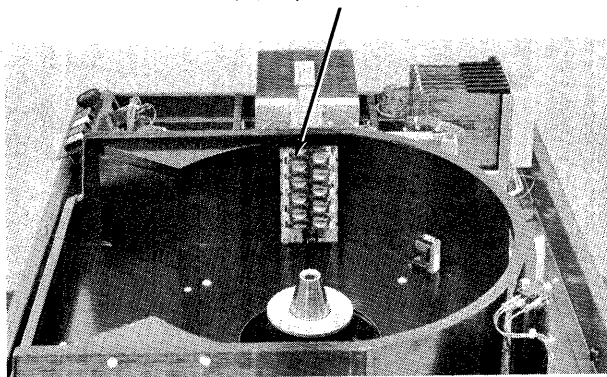

Figure 4-3. Read/Write Heads
- a. Utilizing a light source and an inspection mirror, individually inspect each read/write head for any indication of damage or contamination (see Figure 4-3).